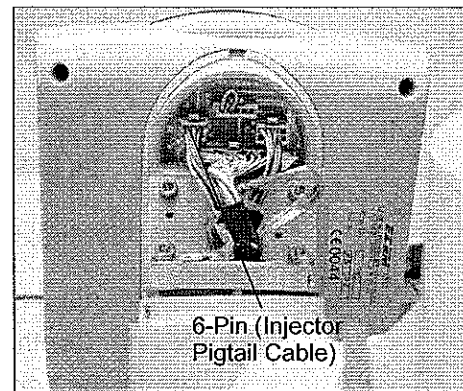

Figure 4-3b: Controller PCB
- c. Disconnect the 6-pin connector (see Figure 4-3b) and measure across the following pins: